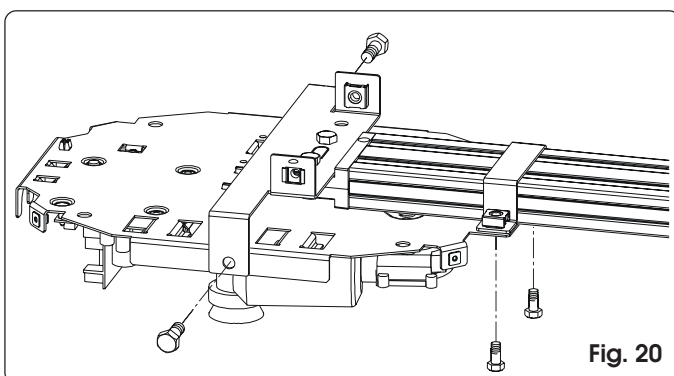

Fig. 20
- 4) Fix the operator to the guide (fig. 20).